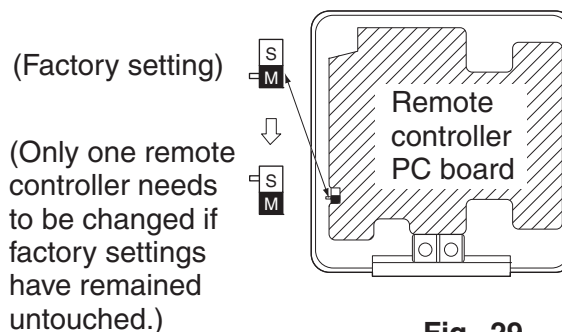

Fig. 29
- Turn the **MAIN/SUB changeover** switch on one of the two remote controller PC boards to “S”. (Leave the switch of the other remote controller set to “M”.) (Refer to Fig. 29)